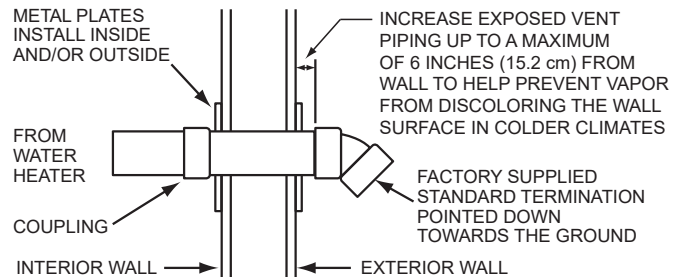

Figure 29. Side-Wall Termination Installation:
8. Cut a length(s) of pipe being installed 3.5 inches (8.9 cm) to 9.5 inches (24.1 cm) longer than the wall thickness at the opening. See **Figure 29** (page 38).
11. Working from outside, slide the pipe and termination(s) assembled in the above steps through the wall. Ensure the termination(s) is pointed down towards the ground. See **Figure 29**.
15. Install a coupling to the end of the pipe(s) inside the building. Before the silicone caulking has time to completely set go outside the building and ensure the termination(s) is still pointing down towards the ground. See **Figure 29**.